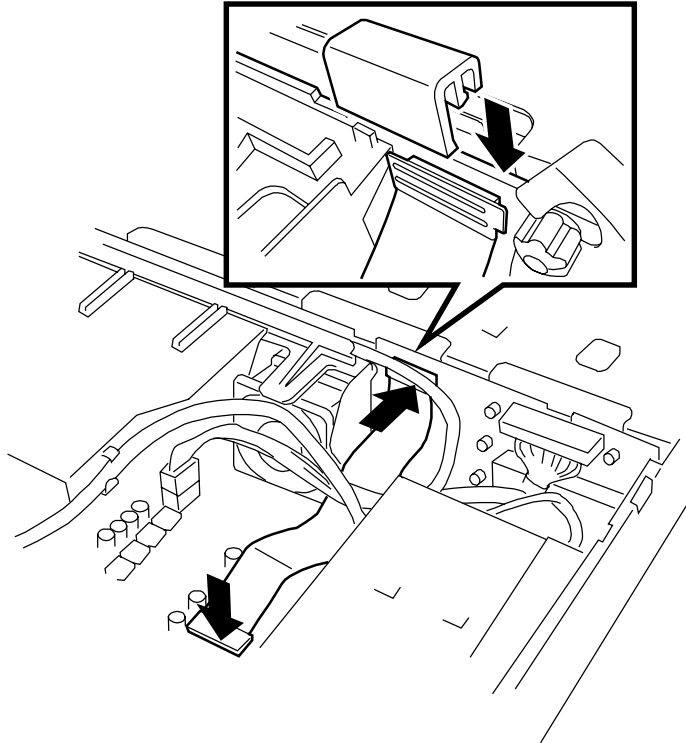

Figure 4-51. *Installing the FPC Cable and Cable Fastener*
23. Connect the FPC cable and fastener. See Figure 4-51.